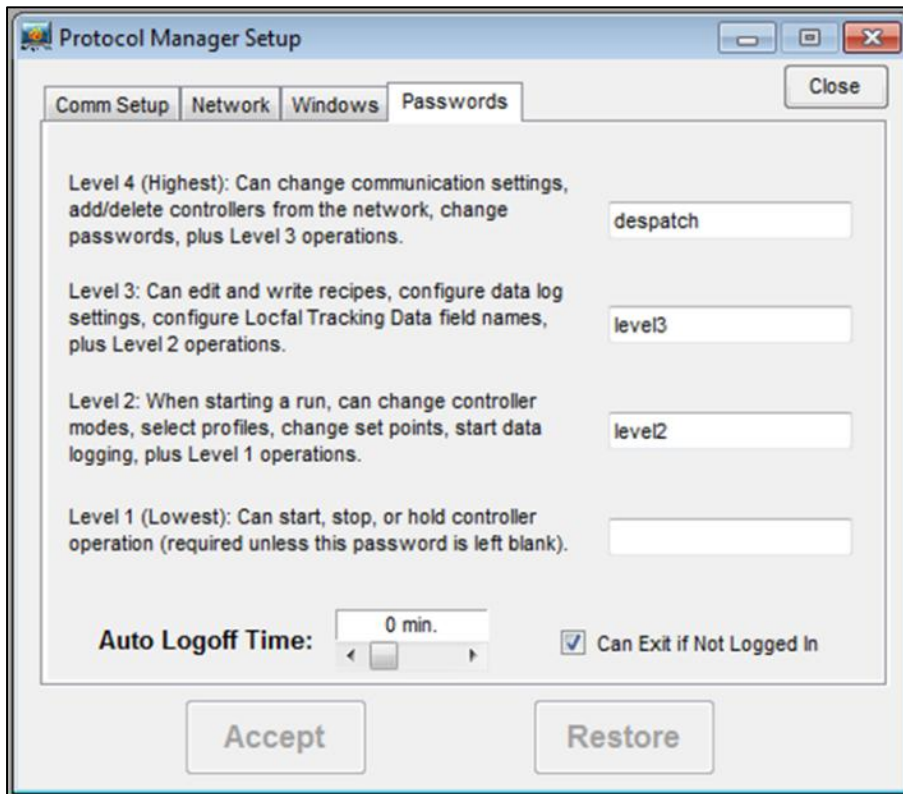

Figure 18. Passwords tab dialogue box.
1. Click **Window** (above the User ID) and then **Setup** (Figure 12) to display the Software Setup Window. Press **Windows** to display the **Passwords** Tab Dialogue Box (Figure 18).